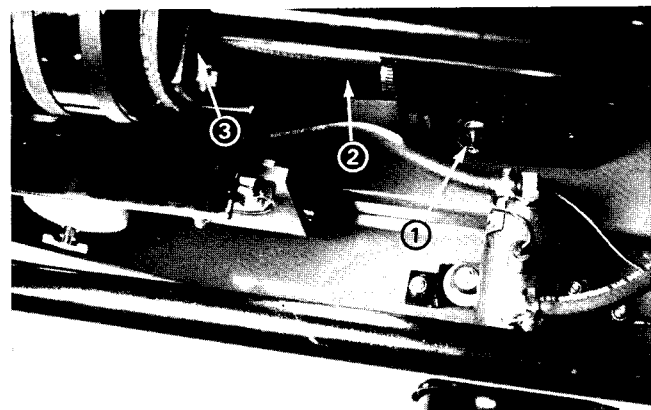

Figure 66
11. Disconnect the engine to transmission coupler from the engine crankshaft pulley (Fig. 66). (See Removing Drive Coupling in the Repair section of Chapter 10 - Engine to Transmission Coupler.)